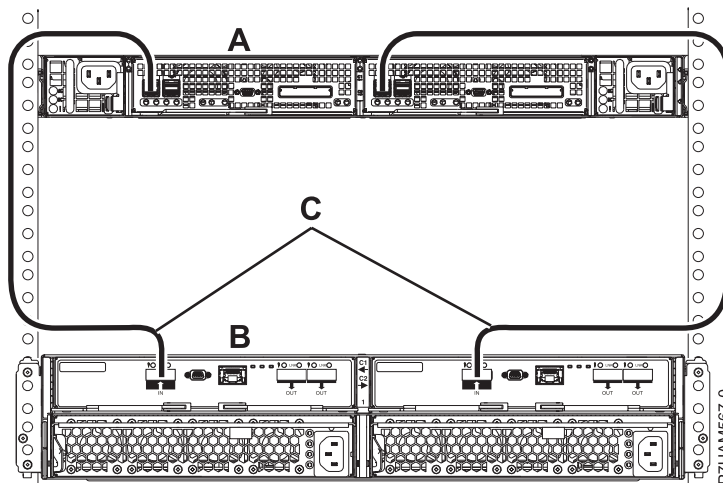

Figure 39. Mode 1 connection of one 58/87 disk drive enclosure by using EX cables to a PCIe storage enclosure
13. Perform the mode 1 connection of one 58/87 disk drive enclosure (B) by using EX cables (C) to a PCIe storage enclosure with support for SAS disk drawers (A) as shown in Figure 39.
- Each internal adapter in the PCIe storage enclosure (A) has access to the other adapter and to all disk drive bays.
- Both EX cables (C) from the same 58/87 disk drive enclosure must be attached to the same numbered port on the PCIe storage enclosure as shown in Figure 39.